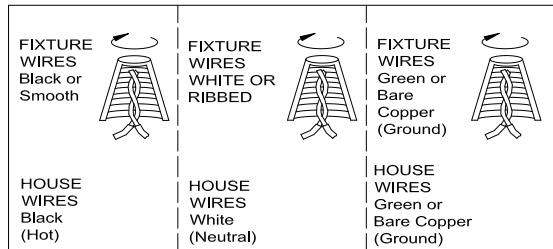

Fig.3
7. Align fixture (H) onto mounting plate (B) and secure with screws (F) and rubber washers (G).
8. To prevent moisture from entering the outlet box and causing a short circuit, use clear caulking (i.e. Indoor/Outdoor silicone sealant) to outline the outside of fixture back plate where it meets the wall leaving a space at bottom to allow moisture a means to escape (Fig.3).